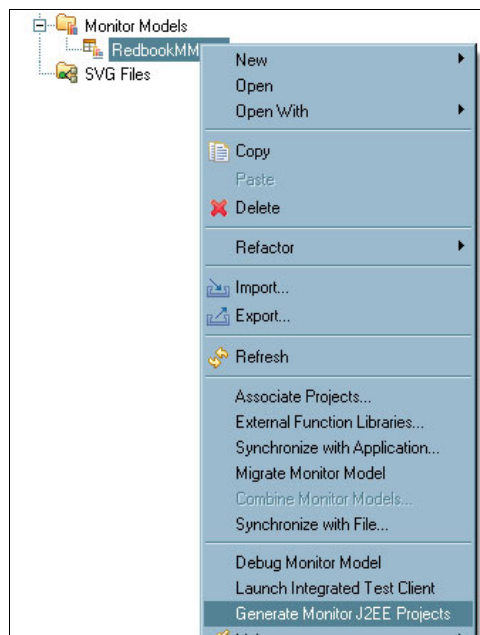

Figure 8-78 Generate Monitor J2EE Projects
1. In the Project Explorer, right-click the model and select **Generate Monitor J2EE Projects**. See Figure 8-78.